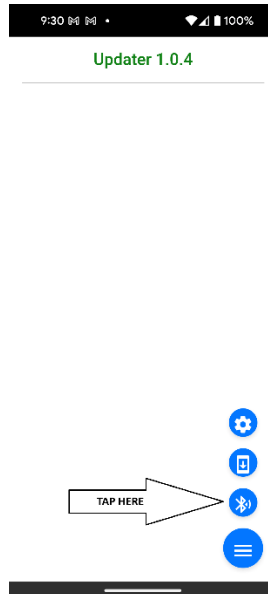
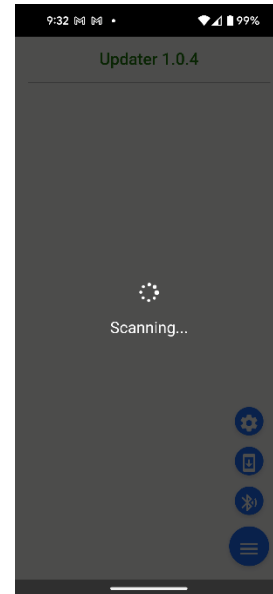
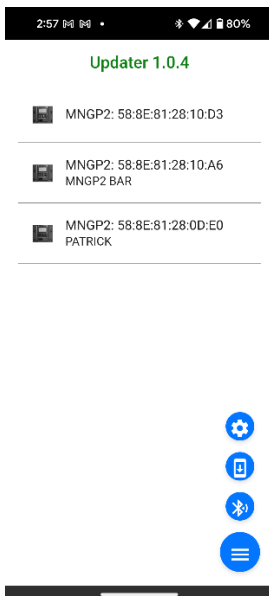

Figure 16
Figure 17
Figure 18
5. Tap the Bluetooth scanning icon **Figure 16**. The app will scan for all nearby MNGP2 devices **Figure 17**. You will eventually see a list of all the MNGP2s that are in the vicinity **Figure 18**. If there are multiple MNGP2s, it may be helpful to know the mac address of the MNGP2 you wish to connect to. You can find this under *USER>MNGP2>Bluetooth Status on the MNGP2*